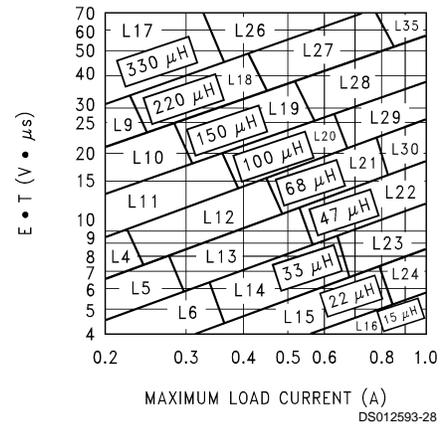

FIGURE 7. LM2598-ADJ
B. Use the $E \cdot T$ value from the previous formula and match it with the $E \cdot T$ number on the vertical axis of the Inductor Value Selection Guide shown in *Figure 7*.
D. From the inductor value selection guide shown in *Figure 7*, the inductance region intersected by the 35 ($V \cdot \mu s$) horizontal line and the 1A vertical line is 100 μH , and the inductor code is L29.